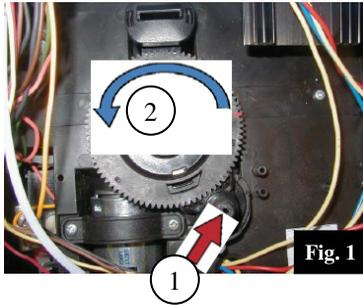

Fig. 1
- Remove the screw shown in figure 1 and remove the coffee bean hopper.